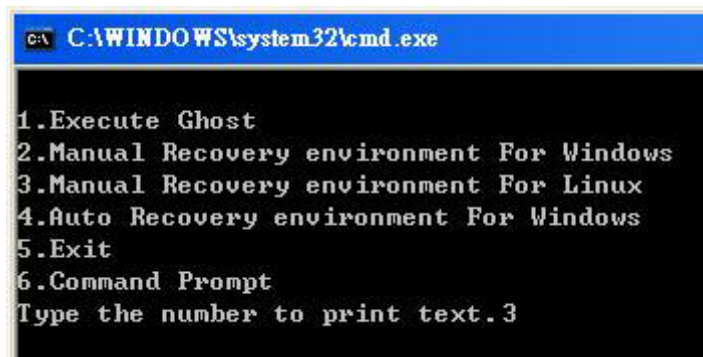

Figure A-32: System Configuration for Linux
Step 4: Build-up recovery partition. Press any key to boot from the recovery CD. It will take a while to launch the recovery tool. Please be patient. When the recovery tool setup menu appears, type <3> and press <Enter> (**Figure A-32**). The Symantec Ghost window appears and starts configuring the system to build-up a recovery partition. After completing the system configuration, press any key to reboot the system. Eject the recovery CD.